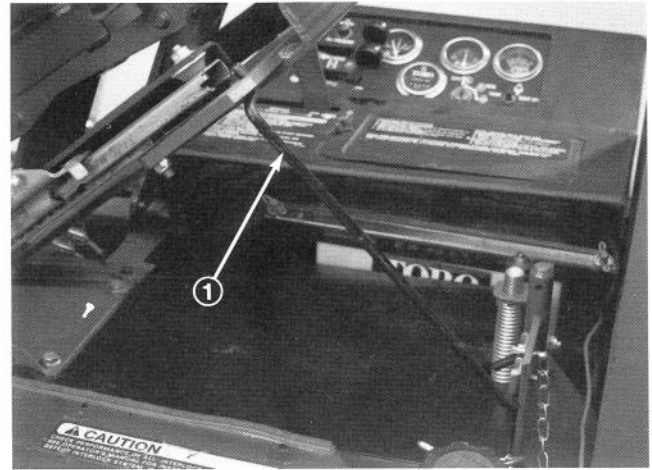

Figure 10
15. Hold seat up with seat support rod (Fig. 10).